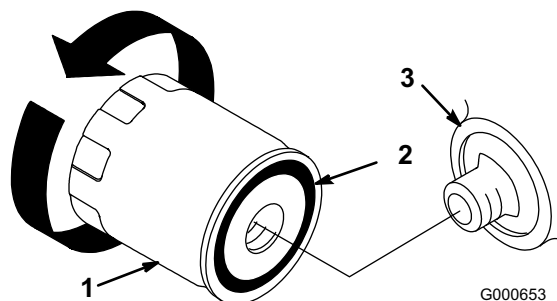

Figure 22
7. Remove the old filter and wipe the filter adapter (Figure 22) gasket surface.
10. Apply a thin coat of new oil to the rubber gasket on the replacement filter (Figure 22).
then tighten the filter an additional 1/2 turn (Figure 22).